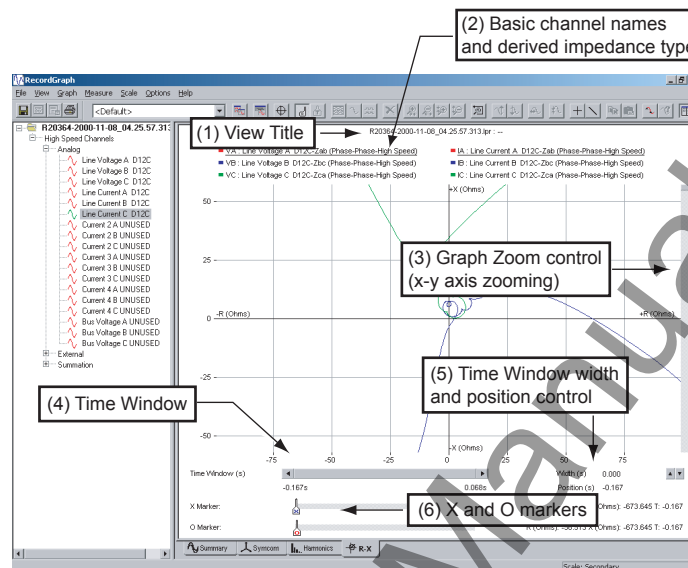

Figure 2.78: Opening Impedance Screen
(1) A text component displays the title at the top of the Impedance View shown in Figure 2.78: Opening Impedance Screen. The title is compiled from items in the Title Options dialog box. Default title is the file name and trigger event.
(2) The basic channel names are displayed below the title, refer to table “Channel Types” on page 2-41.
(3) The graph zoom is controlled using the sliding control on the right side of the window. The R-X plot aspect ratio is maintained under all zooming tools. The graph zoom control offers a 10x zoom factor between minimum and maximum amplitude of the data (R and X coordinates).
(4) The Time Window control provides a means to select the range of data for better presentation of R-X values. For example, if the voltage and current channels are recorded from 0.0 to 0.2 seconds with 1000 data points, using this control, you can choose to view only 0.1 second data (500 points).
(5) Time window width and position control can be used for the precise data analysis.
(6) Control the X and O markers.